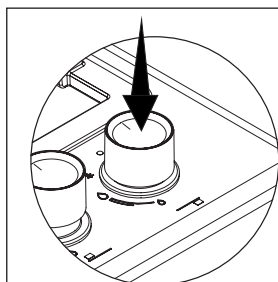
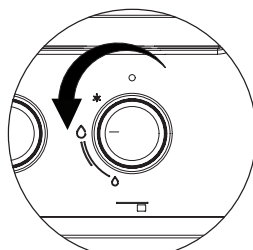

Figure 9
Figure 11
3. To use the hob burner of your preference, first press the knob in the direction of the arrow and wait 5 seconds for air to escape from the pipes (see figure 9).
*** On models with (automatic) ignition with a knob;** you can ignite the hob burner of your preference by pressing the knob in the direction of the arrow (see figure 9) and rotating the knob in the direction of the arrow (see figure 11).